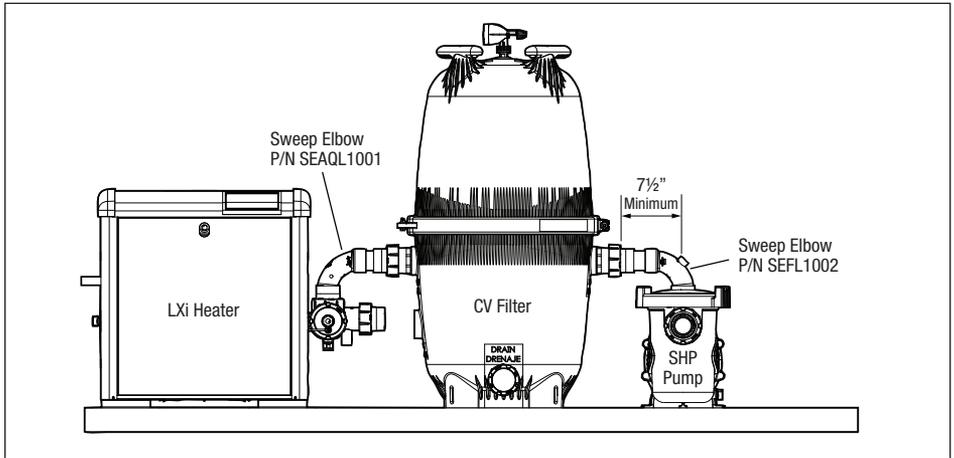

Figure 8. LXi™ Heater, CV Filter and SHP Pump Sweep Elbow Installation
- b. Be sure there is a minimum distance of 7½ inches between the center of the pump outlet port and the filter inlet bulkhead to accommodate the sweep elbow(s). See Figure 8 for recommended installation configuration.
- NOTE:** The SHP pump shown in Figure 8 is for reference only. The Jandy Pro sweep elbow also works with the MPH and PHP series pumps.